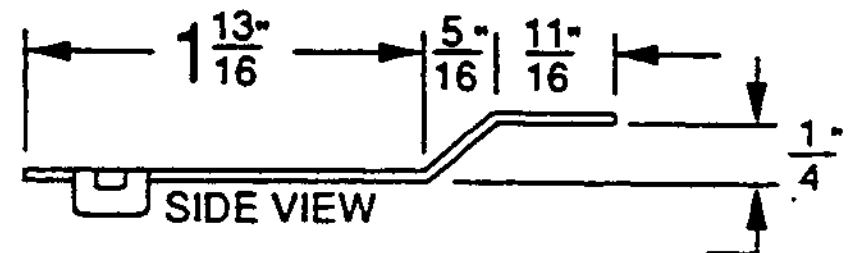

Fig. 5
2. Vertically Mounted Torque Switches (Fig. 5):